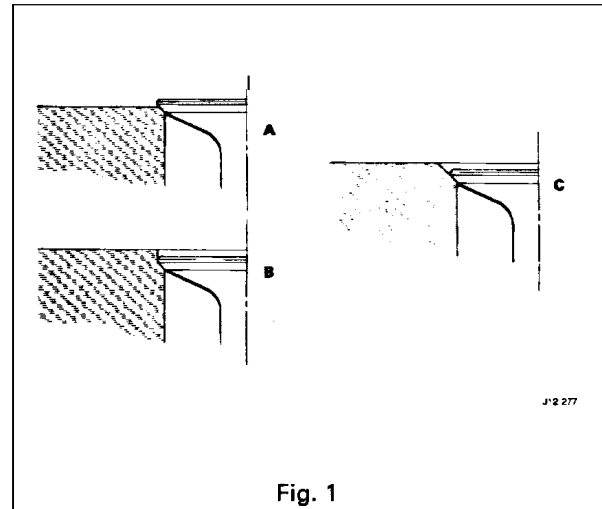

Fig. 1
- Examine the cam followers for wear on the top face. Check for any sign of barreling on the side faces (Fig. 1). Renew all followers that are worn or suspect. Wash the valves, springs, collets, followers and air dry.